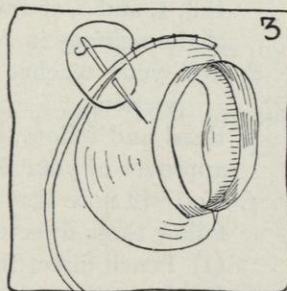

FIG. 3.
- (1) You may have to stretch the edge a little more by pulling it in the steam (see Figure 3 of Job 10, page 44).
- (1) Take some of the curve out of the wire by running it between the thumb and the index finger and by bending it slightly, making it curve in the opposite direction.
- (2) Start to sew the wire at the back of the brim and keep it even with the edge; hold the front of the brim nearest your body. Use buttonhole stitches $\frac{3}{8}$ inch apart (see Figure 3).
- (3) Watch the shape of the brim while sewing on the wire, in order to give the brim a good line.
- (4) Put a few extra buttonhole stitches at each end of the wire. The wire should lap only 2 inches when it is finished.